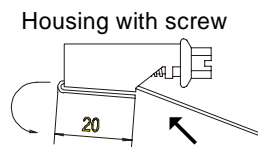

Figure 7: Strap housing
2. Insert the strap into the housing from the screw head side, and bend a projection of 20 mm over the ridge. (Fig.7).